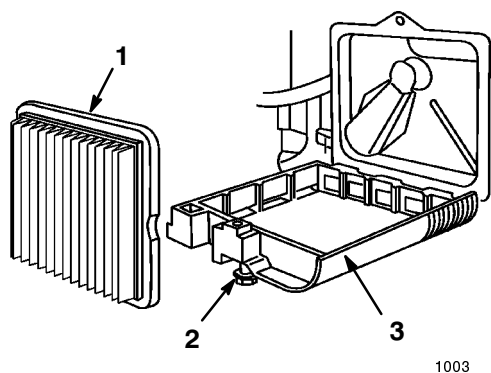

Figure 22
3. Loosen the screw that secures the air filter cover to the engine (Fig. 22).
4. Tilt the air cleaner cover down and clean the cover thoroughly (Fig. 22).
5. Remove and discard the paper air cleaner filter (Fig. 22).
6. Remove and discard the paper air cleaner filter (Fig. 22).